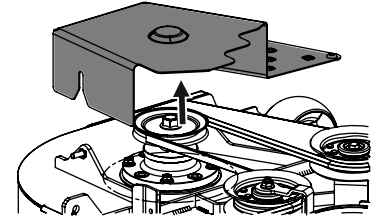

Figure 54
- Remove the belt covers from the deck. See Figure 54.